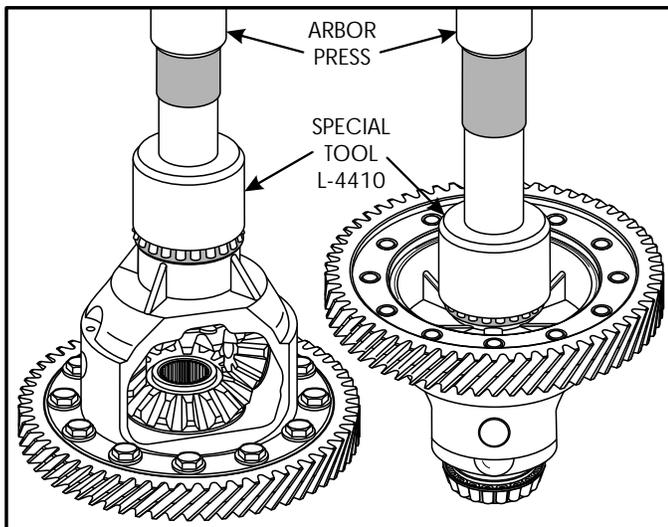

Figure 146
2. Install new bearing cones on the differential carrier using special tool L-4410, and press on with an arbor press, as shown in Figure 146. Again the same tools are used for both sides. **Note: Tag the bearing cups as they "must" remain with the original bearing cone. They are matched and must not be mixed. Use only a press for installation as a hammer may not align cups or cones properly.**